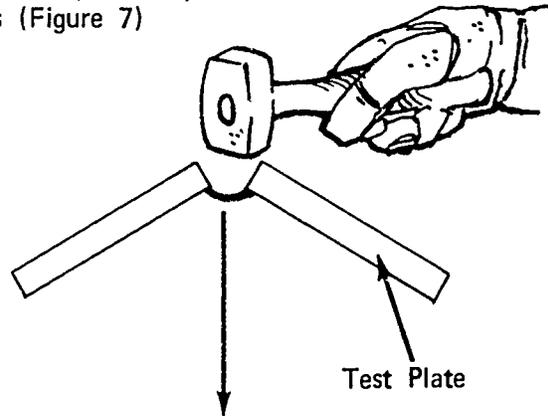

FIGURE 7
- L. Place test plate in a hydraulic press or hit with hammer and compress until joint breaks (Figure 7)